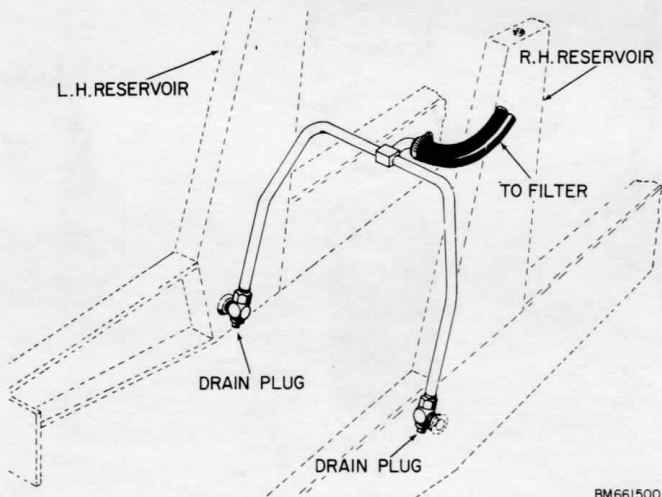

Figure 67 - Reservoir Drain Plug Location
3. Remove the drain plug from the elbow at the bottom of each subframe, Figure 67. Approximately 5-1/2 U.S. gallons will drain from each subframe.